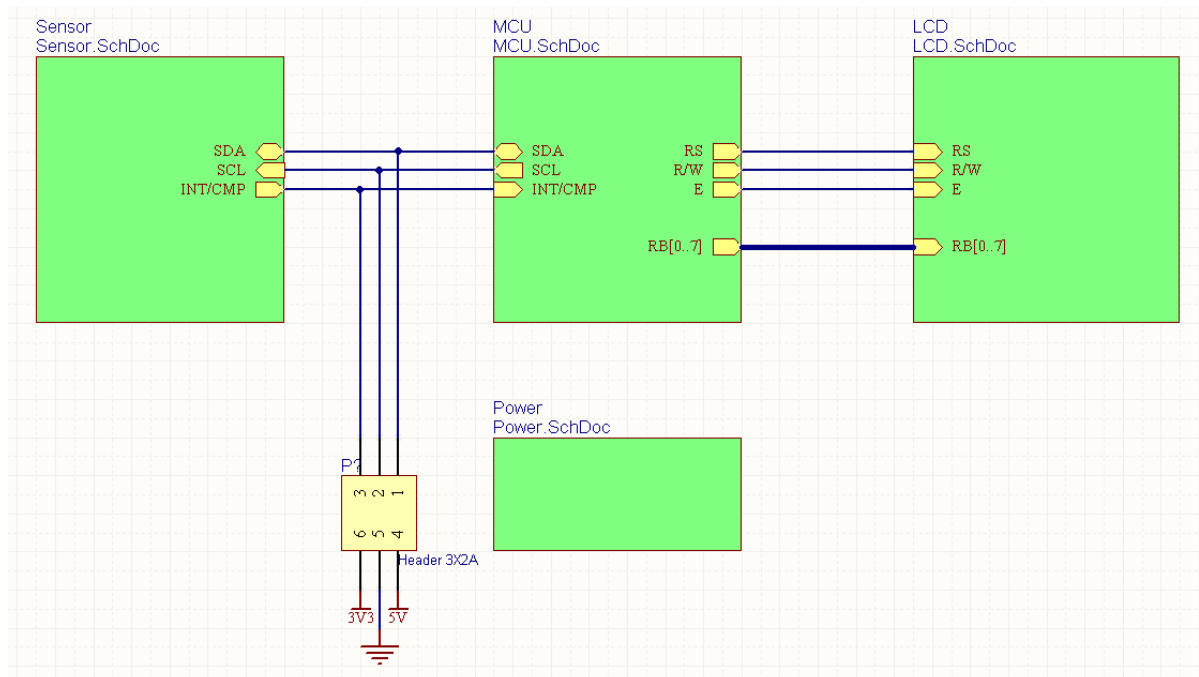

Figure 1. Temperature Sensor top sheet
Refer to Figure 1 to complete this exercise.
4. The sheet symbol will appear floating on the cursor. Place the sheet symbol in an appropriate position on the sheet, as shown in Figure 1.
6. Repeat this process of creating symbols for the MCU, LCD and Power sub-sheets. As you place each sheet symbol, you will notice that the sheet entries will appear on both sides of the symbol, depending on their I/O type: Inputs and Bidirectionals on the left, Outputs on the right. Drag the sheet entries onto the correct sides of each symbol, according to Figure 1.
9. Wire the top sheet as shown in Figure 1.